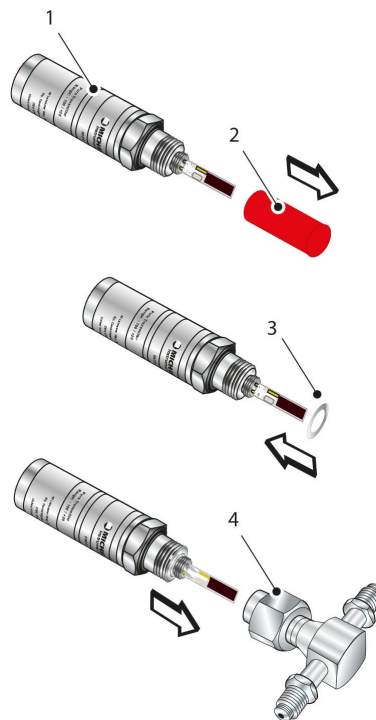

Figure 20 Sensor Block Connection
1. Remove the red protective cover (2) from the tip of the transmitter (1).
2. Fit the 1/2" VCR gasket (3) over the threaded part of the transmitter body.
3. Screw the transmitter (1) into the sensor block (4) and tighten the gas line nut 1/8 (one eighth) of a turn using a second spanner/wrench. **NOTE: Use the flats of the hexagonal nut and not the sensor body.**
4. Fit the transmitter cable/connector assembly to the plug located on the base of the transmitter and tighten the fixing screw (see *Figure 20*).